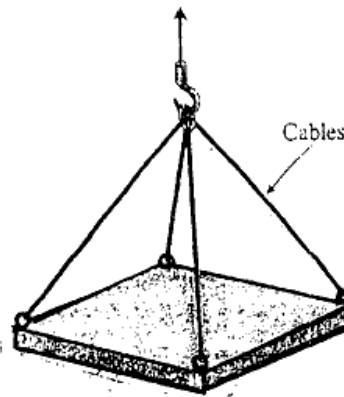

FIG. 1
1. A) A Reinforced Concrete Slab (2400 mm X 2400 mm) & 225 mm. thick is lifted by 4 cables attached to the corners (fig. 1). The cables are attached to a hook at a point 1500 mm above the top of the slab. Each cable has an effective cross-sectional area $A = 9 \text{ mm}^2$. Determine the tensile stress in the cables due to the weight of the concrete slab. Weight density of concrete = 24 kN/m^3 . (04 M)